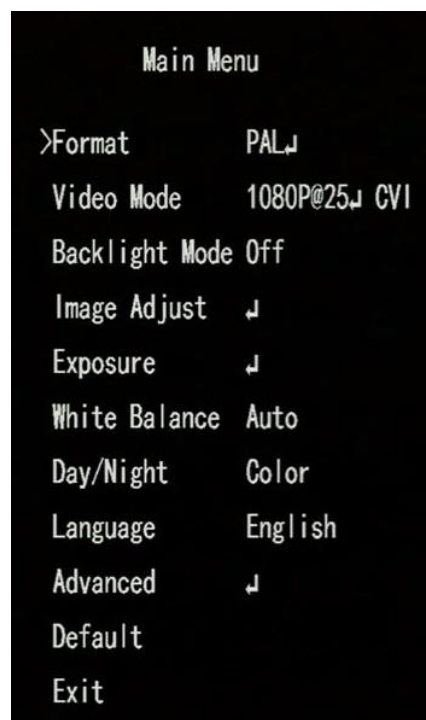

Figure 5-51
For the coaxial camera, you can call the OSD menu through the Expanded PTZ Control Panel. See Figure 5-51.
2. The OSD menu is displayed. See Figure 5-51.